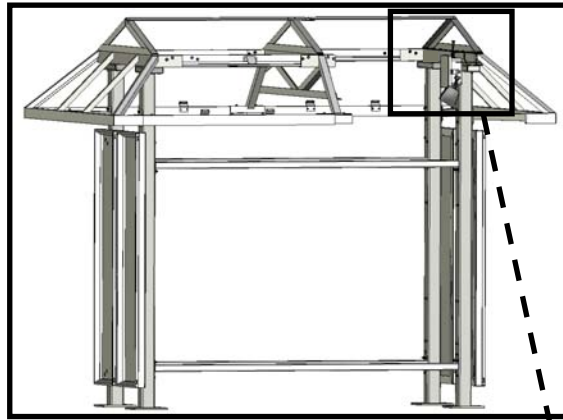

Figure 11
- c) Connect large harness connector to mating connector on top of the enclosure. See Figures 11 and 12.